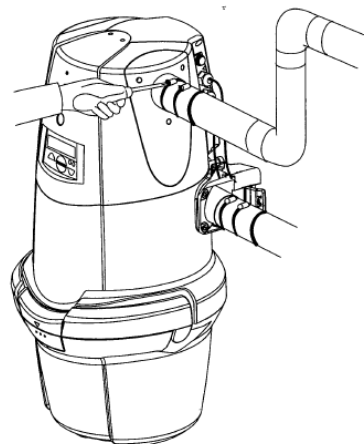

Figure 12
5. Connect the system pipe to the main vacuum unit with the sleeve provided, tightening the metal clamps (clamps and the specific sleeve are both of series). (Figures 12)
6. Connect the main vacuum unit to the air expulsion pipe. (Figures 12)